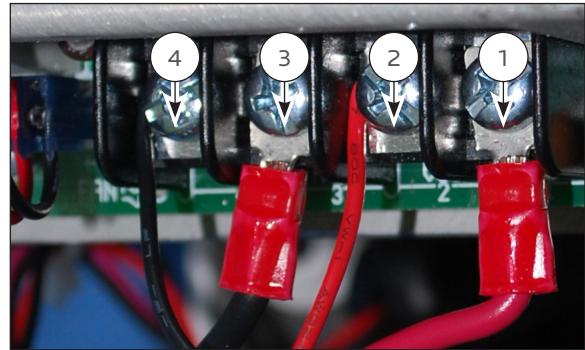

Figure 122 - Step 4 Detail
4. Connect the control board power wire harness to the power supply (Figure 122).